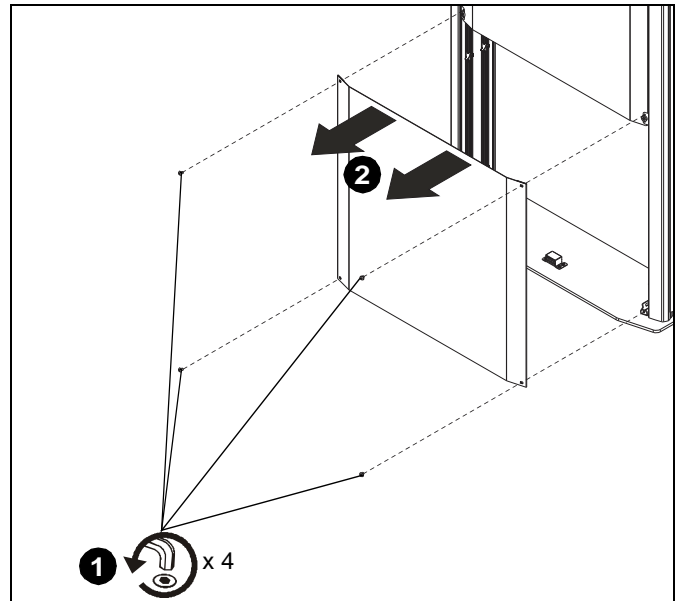

Figure 15
1. Remove lower cover to expose floor holes. Refer to Cover Removal Section for details. (See Figure 15)
1. Remove four button head cap screws holding lower front cover to stand. (See Figure 15)
2. Pull lower front cover away from stand. (See Figure 15)